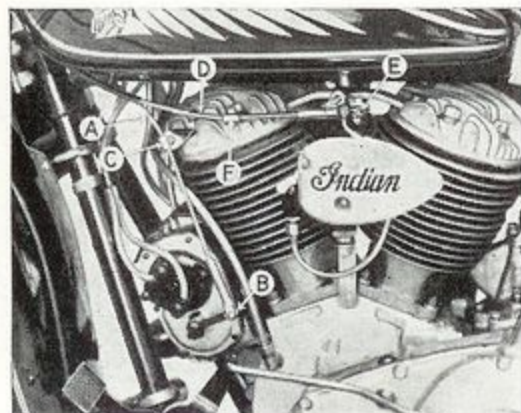

Figure 7
**Models 236, 336, 536 and 636**—**Throttle Control**—Pass the flexible casing for throttle control cable "D" (See Fig. 7), which comes from the left handlebar down by the left side of the frame head, through clip on lower front tank bolt also through clip "F" and attach clevis to carburetor throttle lever at "E". With the left grip turned out or to the left as far as it will go and the throttle lever in the closed position (to the rear) fasten casing by tightening screw on clip "F". Test by turning left grip in and out to be sure that full range of the throttle is obtained. If necessary, adjust by sliding cable casing "D" in clip "F".
**Spark Control (Magneto) Ignition**—Pass the flexible casing for spark control cable "A" (Fig. 7) which comes from right handlebar, to right of frame head, through clip on lower front tank bolt, across in back of the frame front drop tubes, through clip "C" and attach clevis to the magneto advance lever at "B". Then with the right grip turned in or to the left as far as it will go, push the magneto advance lever down as far as it will go and fasten cable casing by tightening screw on clip